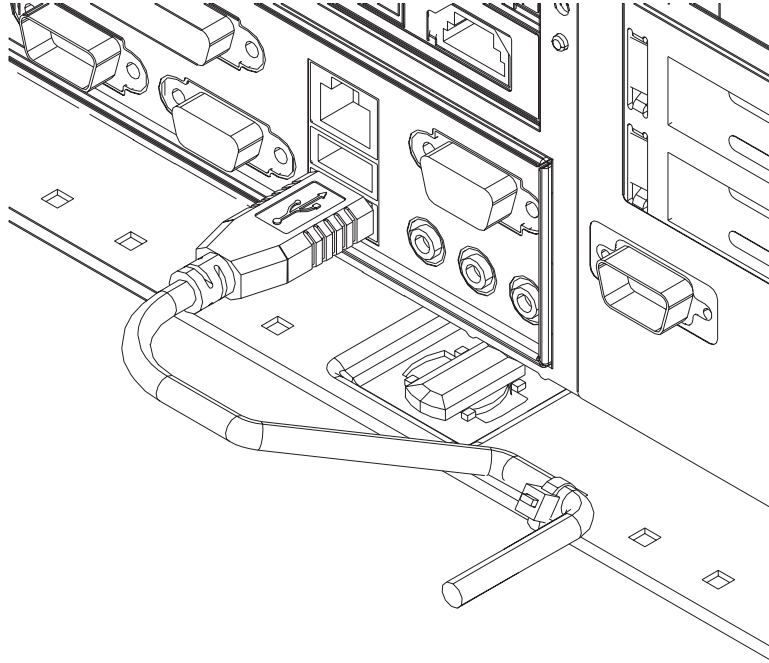

Figure 37. Securing the cable with cable ties
2. As shown in Figure 37, wrap the cable tie around the cable cord and through the hole located in the base of the system unit. Tighten the cable tie to secure. Your connection should place no pressure on the cable connector, but instead secure the cable cord to the system unit.